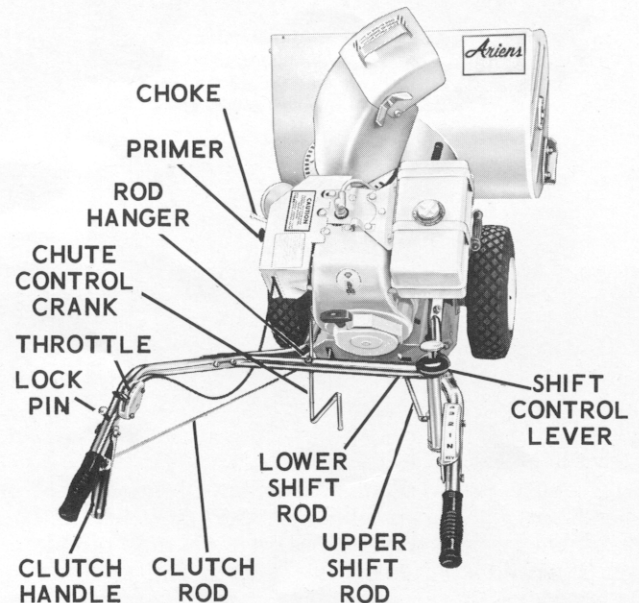

Figure 1
c. Remove the four bolts from the lower portion of the upper handle bar and slide the upper handle bar in place between the curved portions of the lower handle bars (figure 1).
Position the shift control (figure 1) on the inside of the handle bars on the right hand side so that the holes in the control line up with the holes in the handle bar. Fasten the control to the handle bar with two hex head cap screws and lockwashers (figure 1).
a. Pull up as far as possible on the lower shift rod which projects from the rear of the engine mounting frame (figure 1). Screw the threaded portion of the upper shift rod over the lower shift rod.
b. Slide the straight end of the clutch rod through the ball joint mounted on the clutch arm (figure 1) and place the bent end of the rod through the hole in the clutch operating handle (figure 1).
a. Using the two self-tapping screws provided, fasten the throttle control lever (figure 1) to the inside of the left hand handle bar.
a. Slide the chute control rod through the hole in the rod hanger (figure 1) mounted on the left hand side of the handle bar.